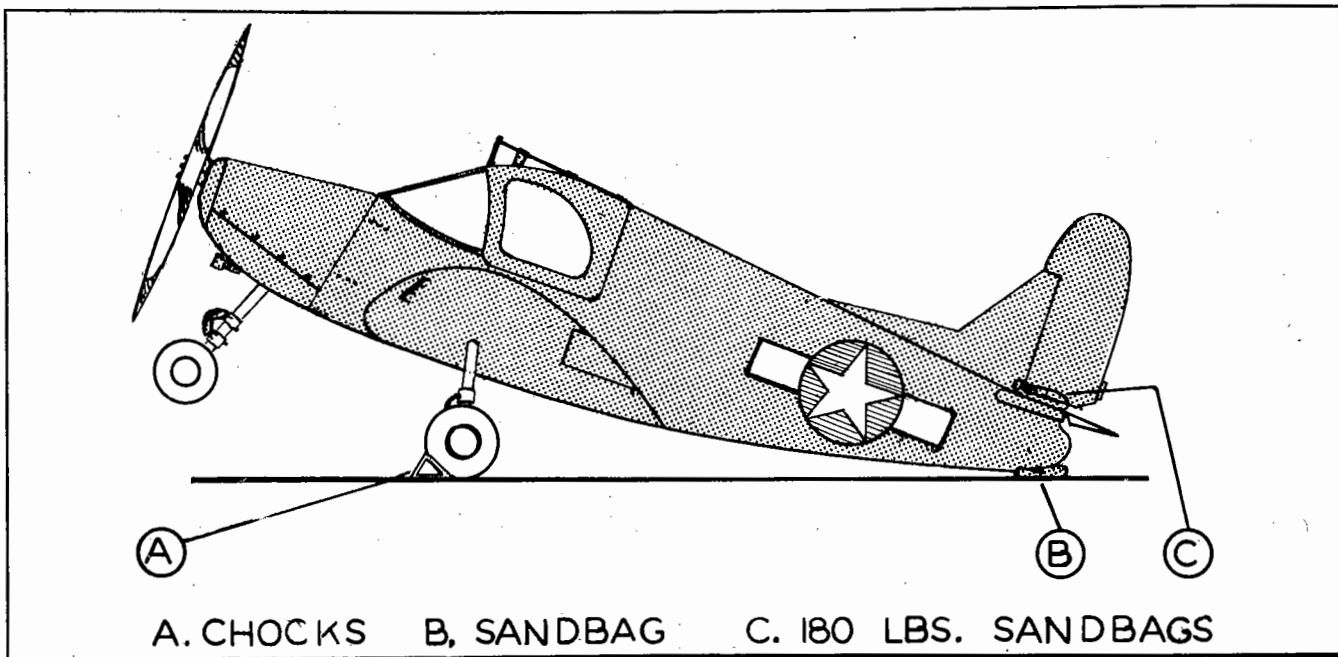

Figure 43—Nose Wheel Removal
(2) REMOVAL AND DISASSEMBLY INSTRUCTIONS. (See figure 43.)